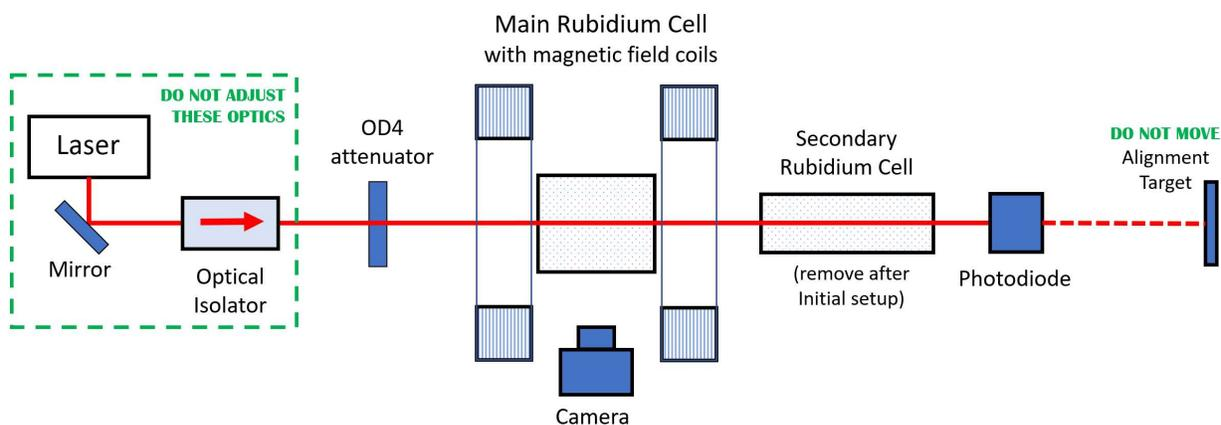

Figure 4. The optical layout for making the first observation of the rubidium absorption spectrum.
Your first laboratory task is to observe the Doppler-broadened Rubidium absorption spectrum illustrated in Figure 2. To begin, *put on your laser safety goggles* and start assembling the optical layout shown in Figure 4. You will likely need some help from your TA at first, because getting some one-on-one help is the fastest way to learn how to use this laser system (and there are too many operational details to include in this handout). With your safety goggles on (and only when you have them on!) turn the Laser Power switch to ON (at the left side of the laser controller; note that the power switch on the back of the chassis is always on) and set the Current dial to 5.0. This should produce a laser beam with about 10 mW of optical power, although the 780nm laser light is not visible to the naked eye (and certainly not through your goggles). The easiest way to “see” the laser beam is by using an IR Detection Card, and a few of these can be found on the optical table. In a nutshell, the active area of the IR card absorbs UV photons from the overhead lights, putting some dye molecules into a metastable excited state. When the 780nm laser photons tickle these excited molecules, they decay back down and emit visible light in the process, yielding an orange spot you can see even through your laser goggles. These cards are more expensive than they look, so please handle them with care.
Note that the **laser** and **optical isolator** in Figure 4 are difficult to align properly, so please do not move or adjust these elements. Check that all is well by removing the attenuator, secondary rubidium cell, and the photodiode, and then confirm that the laser beam is centered (or nearly so) on the alignment target. Note that the laser beam in Figure 4 runs along a row of holes on the optical table, at a fixed height of four inches above the table surface. This is not by accident but is part of good optical alignment technique (more on that later). Note also that the main rubidium vapor cell is a cumbersome item, with its magnetic field coils and electrical cables, so this device should be pushed up against the guide rail already attached to the optical table. You can slide the cell assembly along the guide rail as needed, and it is so heavy that it need not be bolted down. The cell temperature should be near 23C at this point (as seen on the digital readout on the laser controller).
At this point the laser frequency will be scanning, but not over the desired frequency range. So power up the TV camera and TV monitor so you are looking into the side hole in the rubidium cell, as shown in Figure 4. Put the TV camera about 2cm from the side of the Rb cell, so you get a good view inside the cell. Turn up the laser current slowly (without exceeding 8.0 on the dial) while you watch the TV monitor. At some point you should see a flickering line of fluorescence inside the cell. You may need to turn the dial up to 6-7 and then maybe back down to maybe 5.5, but your results may vary. There is typically a lot of hysteresis in the laser behavior, so you will likely have to turn the current up and down a few times before getting stable fluorescence. Ask your TA for help as needed. What the camera sees here is the Rb atoms absorbing laser light and emitting it in all directions as excited atoms decay back down to the ground state. And this scattered light at 780 nm is easily detected by the silicon camera sensor.
**Exercise 2.** When you are satisfied with your absorption signal, save a screenshot (a .png file) similar to Figure 7 to the USB drive on the oscilloscope (use the Save/Recall button on the 'scope to set this up). Add this image to your e-notebook, along with a description of your lab setup. You are welcome to reproduce figures from this handout (e.g. Figure 4) if you wish, but this is not necessary. Include as much detail in your e-notebook as you think is required to describe your work. There is no fixed rubric itemizing exactly what you need to do for this and the other lab tasks, so treat them like small research projects. This is the advanced physics lab, so describe your work, your analysis, and your results as you see fit.
Your next step is to look at how the Rb absorption spectrum changes with the temperature of the Rb vapor cell, and you can then compare your results with theoretical expectations. The overall setup is the same as shown in Figure 4, and the cell temperature should start out at room temperature (about 23C). To reduce the background light on the PD sensor, you might want to turn out the overhead lights and turn on the floor lamp instead. Not only does this reduce the total room light, but the floor lamp runs on DC current, producing just a small voltage offset in the PD signal, while the overhead lights tend to flicker at 120Hz.